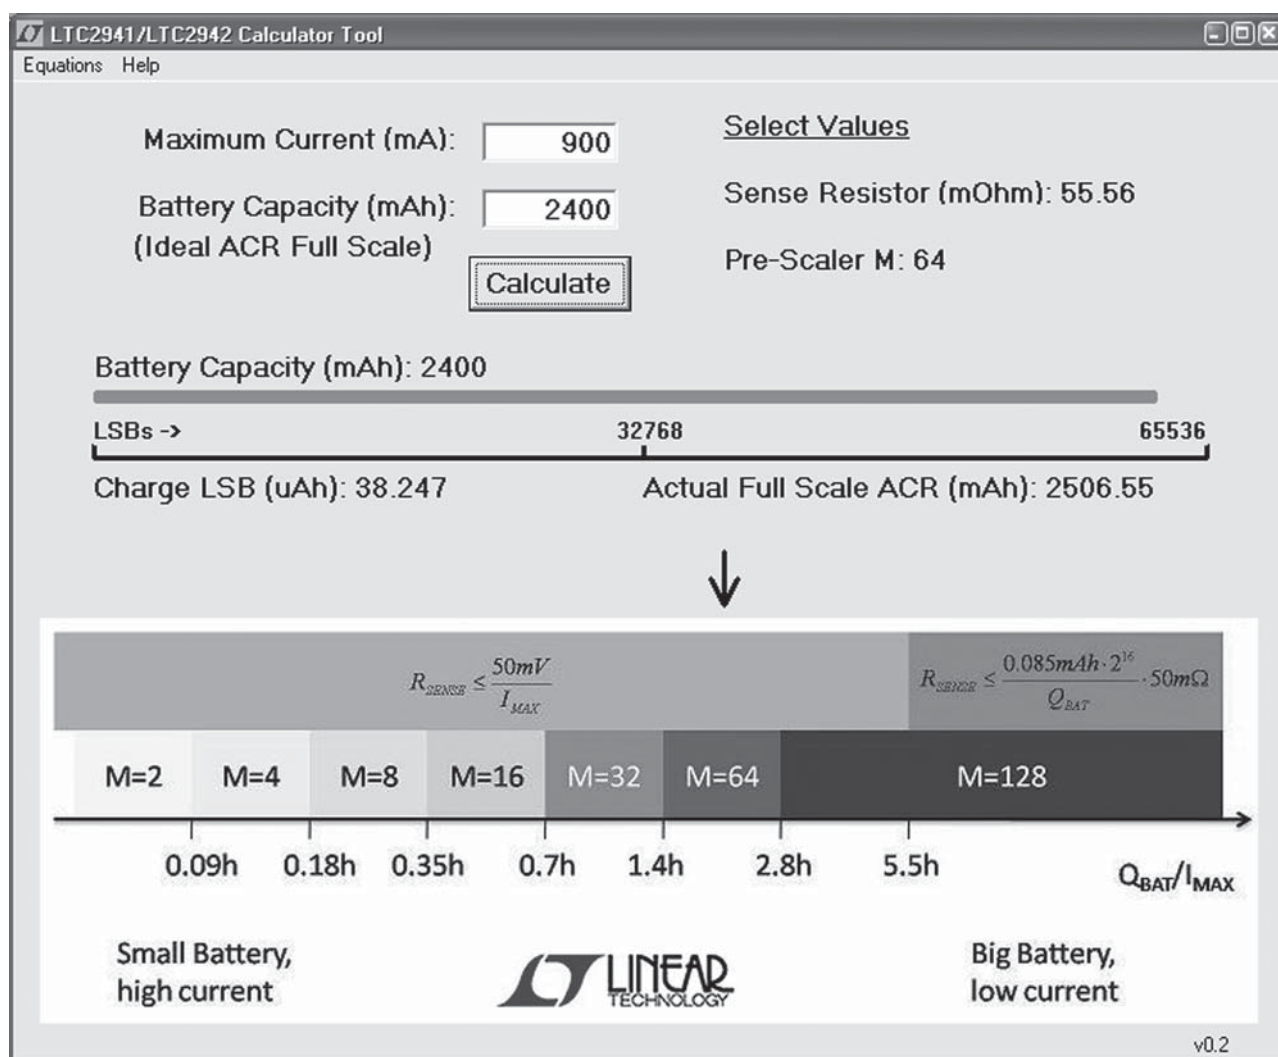

Figure 4. LTC2941/LTC2942 Pre-Scaler and Sense Resistor Calculator
Select a pre-scaler M value to scale the ACR according to battery capacity and maximum current. Changing the pre-scaler will halt the poll. A calculator tool is provided in the tool bar under Tools to assist in calculating a pre-scaler value and sense resistor (Figure 4).
A calculator tool is available in the tool bar options under Tools. In this calculator (Figure 4), enter the maximum current passed through the sense and the maximum battery capacity. Click on Calculate to calculate a recommended sense resistor and pre-scaler (M) value. The display shows the battery capacity in comparison to ACR full scale and provides an LSB value in mAh. Also shown is the recommended equation to use to determine an appropriate sense resistor as a function of the maximum battery charge and maximum current.